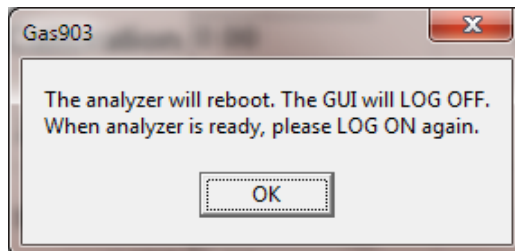

Figure 5-5: Reboot Dialog Box
- *Reboot* - accesses the dialog box shown in Figure 5-5. Pressing the *OK* button will cause the analyzer to reboot. Any changes that have not been written to the computer but not transferred to the analyzer will be lost if this option is selected. The *Reset* option is unavailable if the program is in read-only mode.